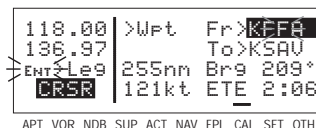

Figure 3-39
6. Use the right outer and inner knobs in this manner until the complete waypoint identifier is displayed (figure 3-39). Note that you may not have to enter the last characters of the identifier because each time you enter a character, the KLX 135A offers you the first identifier in the data base beginning with the characters you have entered.